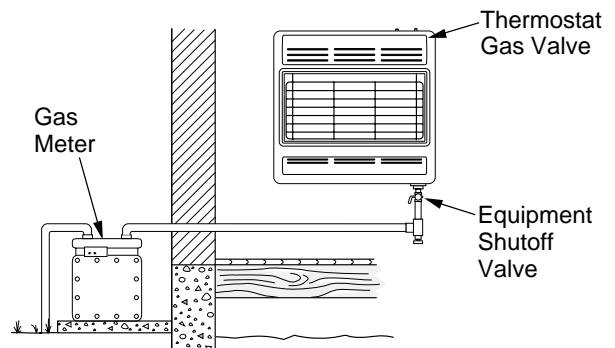
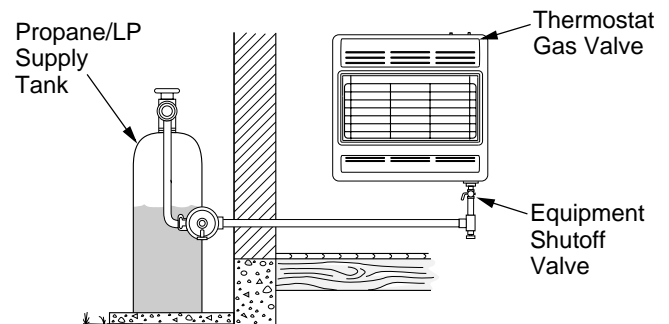

Figure 17 - Checking Gas Joints for Natural Gas
Figure 18 - Checking Gas Joints for Propane/LP Gas
3. Check all joints from gas meter for natural gas (see Figure 17) or propane/LP supply tank for propane/LP gas, to equipment shutoff valve (see Figure 18). Apply a noncorrosive leak detection fluid to all joints. Bubbles forming show a leak.
4. Check all joints from equipment shutoff valve to thermostatic gas valve (see Figure 17 or 18). Apply a noncorrosive leak detection fluid to all joints. Bubbles forming show a leak.